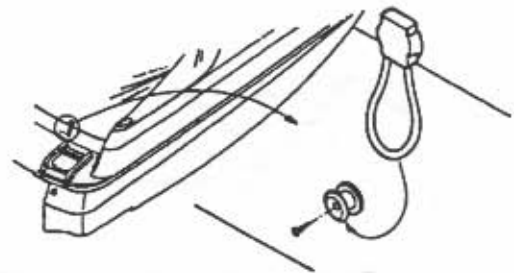

Figure L3: Shock Cords
- b. If the canvas has shock cords along the aft edge, attach to knobs as shown in Figure L3.